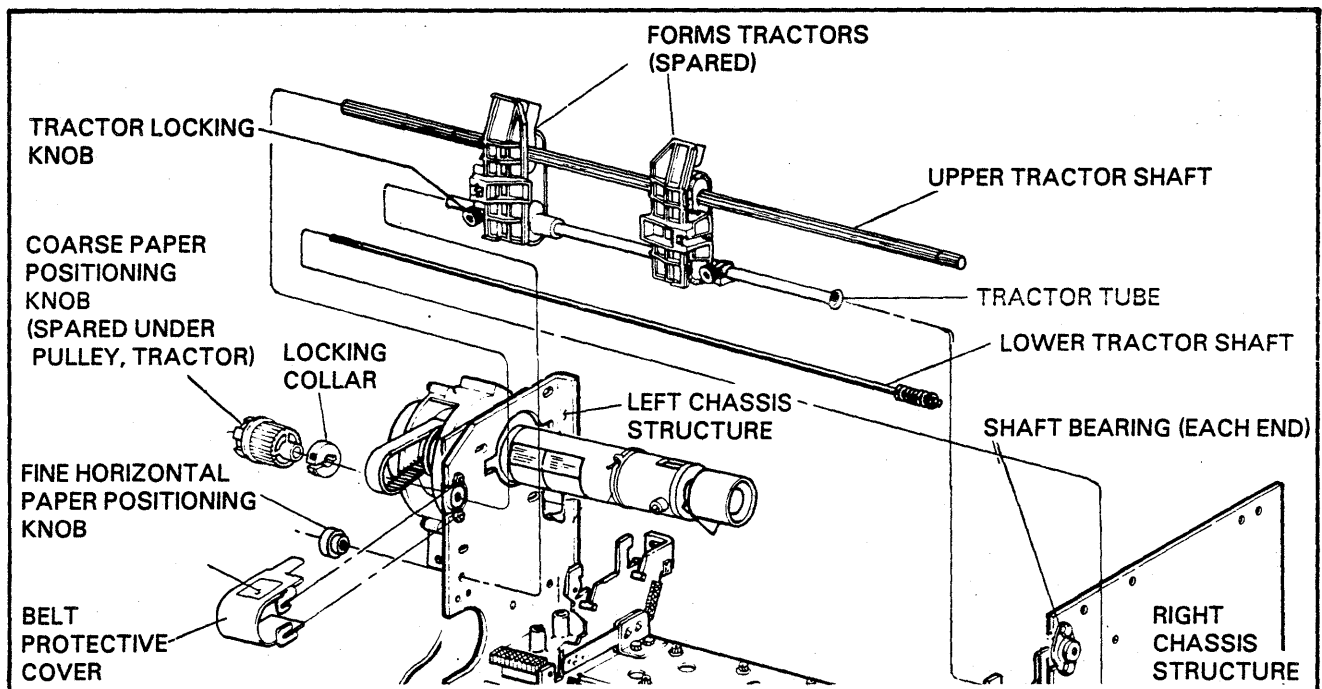

FIGURE 6-8. TRACTOR REMOVAL AND REPLACEMENT
6. Remove the protective cover positioned over the belt for the tractor drive system (Figure 6-8).